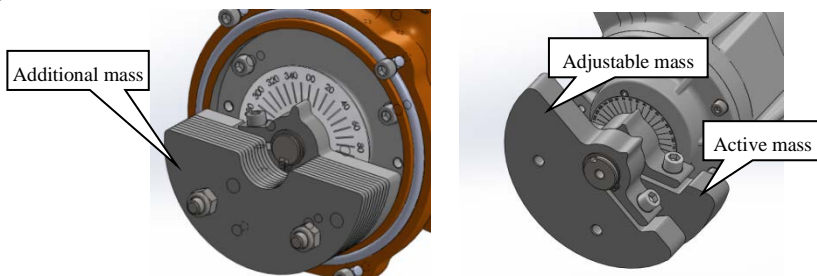

Fig.6 Mass form diagram
1. If you need to adjust the centrifugal force of the flanged electric vibrator, the mass form is shown in Figure 6(left), you can adjust the centrifugal force of the flanged motor by increasing or decreasing the number of additional masses on the main masses. The mass form is shown in Figure 6, you can adjust the centrifugal force of the motor by rotating the adjustable mass and changing the angle between the adjustable mass and the active mass.